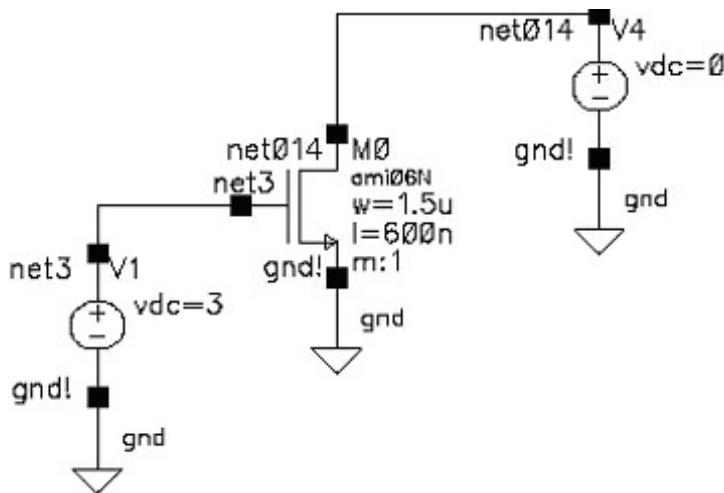
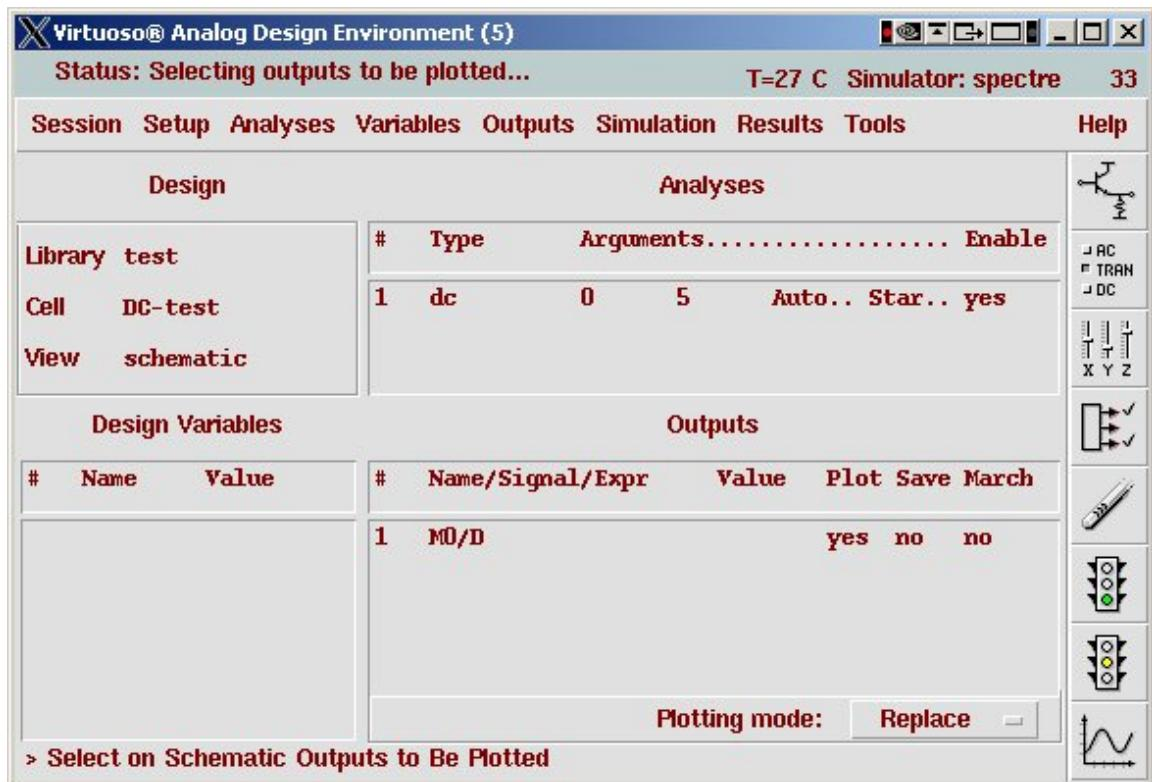

Figure 6.29: Simple circuit for DC analysis (**schematic** view)
Figure 6.32: Analog Environment dialog box for DC analysis
To run the same DC analysis in **Spectre**, start by creating a schematic with a single **nmos** device and two **vdc** supply nodes from either the **NCSU\_Analog\_Parts** or the **UofU\_Analog\_Parts** libraries. The Composer version looks like Figure 6.29. To perform a DC analysis on this circuit you would fix the gate voltage (it's fixed at 3v in this Figure 6.29), and then do a DC sweep of the  $V_{ds}$  by sweeping the voltage of the other **vdc** component from 0 to 5 volts. To see the  $I_{ds}$  value you would plot the current at the transistor's drain instead of the voltage of a node.
1. Open the schematic in Composer. Set the voltages of the **vdc** components as they are in Figure 6.29.
7. Back in the Analog Environment you need to select the outputs to be plotted. Use the same **Select on Schematic** choice that you've used before, but instead of selecting a wire, select the red square on the drain of the **nmos** transistor (the top leg of transistor **M0** in Figure 6.29 - the one without the arrow). This will cause a circle to be put around the drain, and the drain current will be plotted. This shows up as **M0/D** for the output in my circuit (**M0** is the transistor identifier, and **D** is the drain current). The **Analog Environment** dialog box should look like Figure 6.32 when you're done.